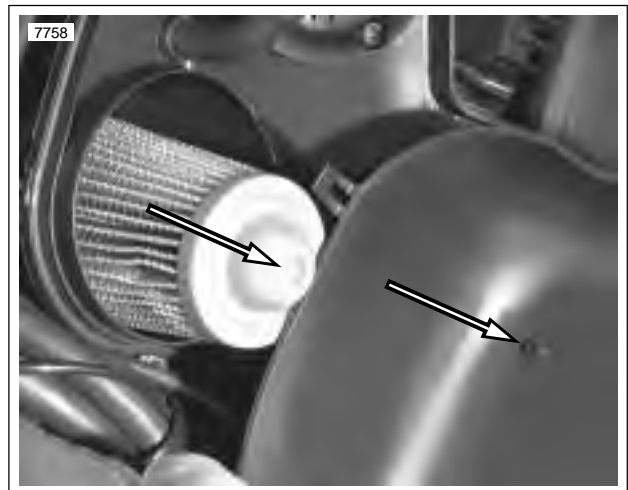

Figure 1-39. Install Air Box Cover Aligning The Index Pin To The Depression In The Air Filter
10. See Figure 1-39. Taking note of index pin on inboard side of cover and small depression at tip of cone, position cover onto air box so that pin engages depression.